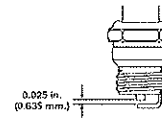

Fig. 21
3. Replace a cracked, fouled or dirty spark plug. Set the air gap at 0.025 in. (0.635 mm) using a feeler gauge (Fig. 21).